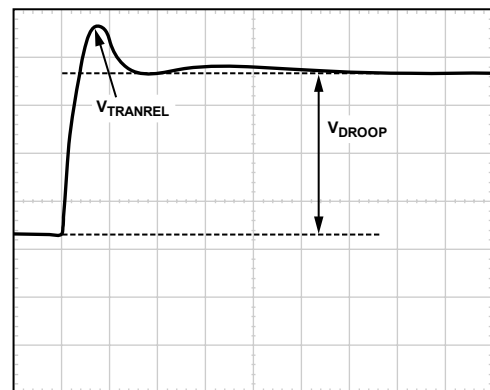

Figure 17. Transient Setting Waveform
- For load release (see Figure 17), if $V_{TRANREL}$ is larger than the allowed overshoot, there is not enough output capacitance. Either more capacitance is needed, or the inductor values need to be made smaller. When changing inductors, start the design again using a spreadsheet and this tuning procedure.